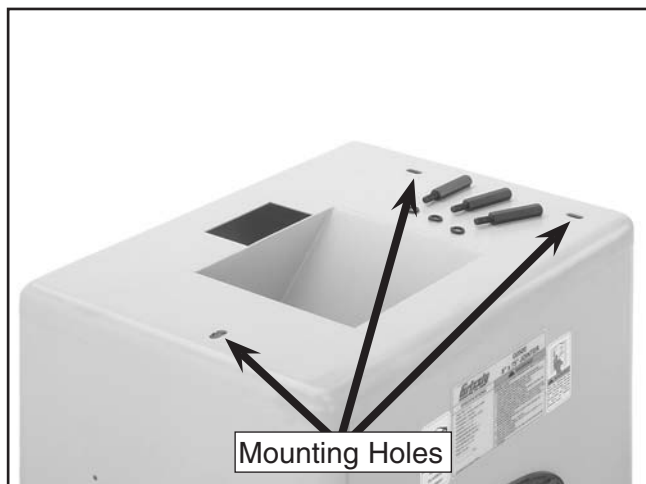

Figure 6. Mounting holes.
2. Align the three bolt holes on the jointer with the three holes on the stand (**Figure 6**).